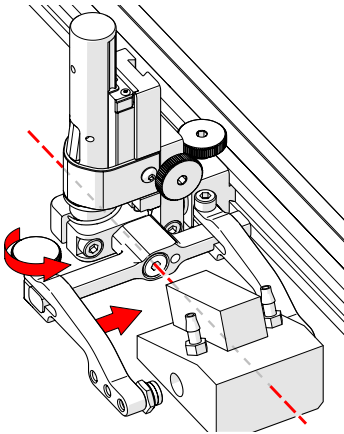

Fig. 125 - Adjust outer arm
5. Loosen the probe holder arm adjustment knob (Fig. 125) and slide the probe holder arm along the yoke pinching the wedge in place.